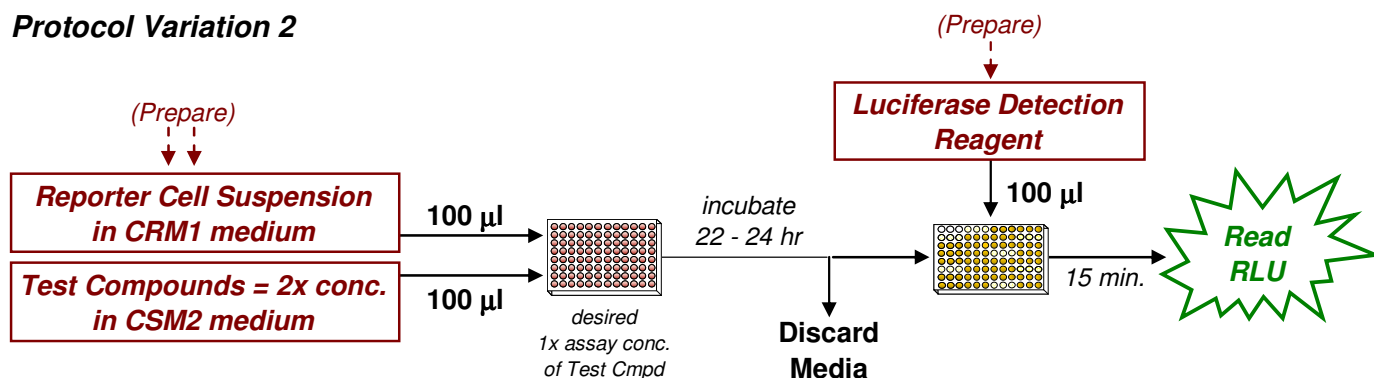

Figure 1b. Protocol Variation 2: Test compounds are diluted in Compound Screening Medium (CSM2) to generate "2x" concentrations.
2.) Test compounds are solvated in DMSO as very high-concentration stocks, and are stored as master stocks. These master stocks are then diluted to appropriate working concentrations immediately prior to setting up the assay. In this instance, users may elect to dilute test compounds to “2x” stocks using **Compound Screening Medium (CSM-2)** as described in **Protocol Variation 2**, and depicted in **Figure 1b**. By this method, the potentially adverse effects of introducing high concentrations of DMSO into the assay are avoided.